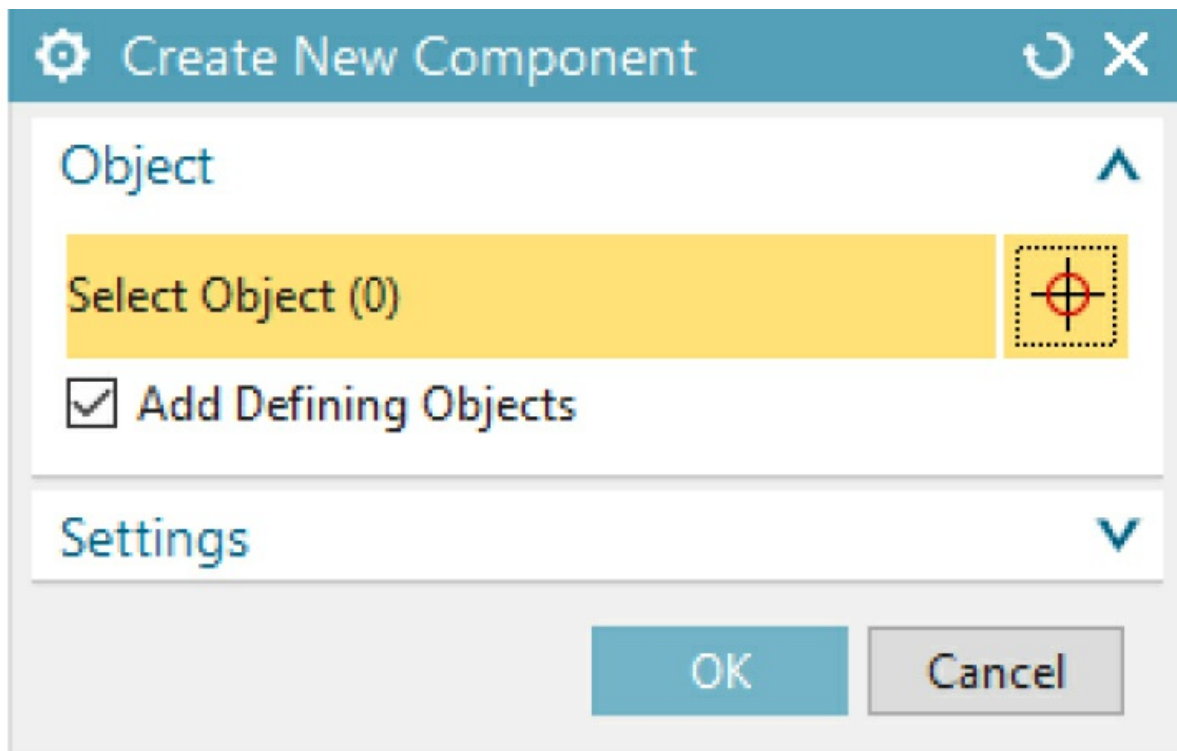

Figure 9-1 The Create New Component dialog box
3. Choose the **OK** button from the dialog box; the **Create New Component** dialog box will be displayed, as shown in Figure 9-1.